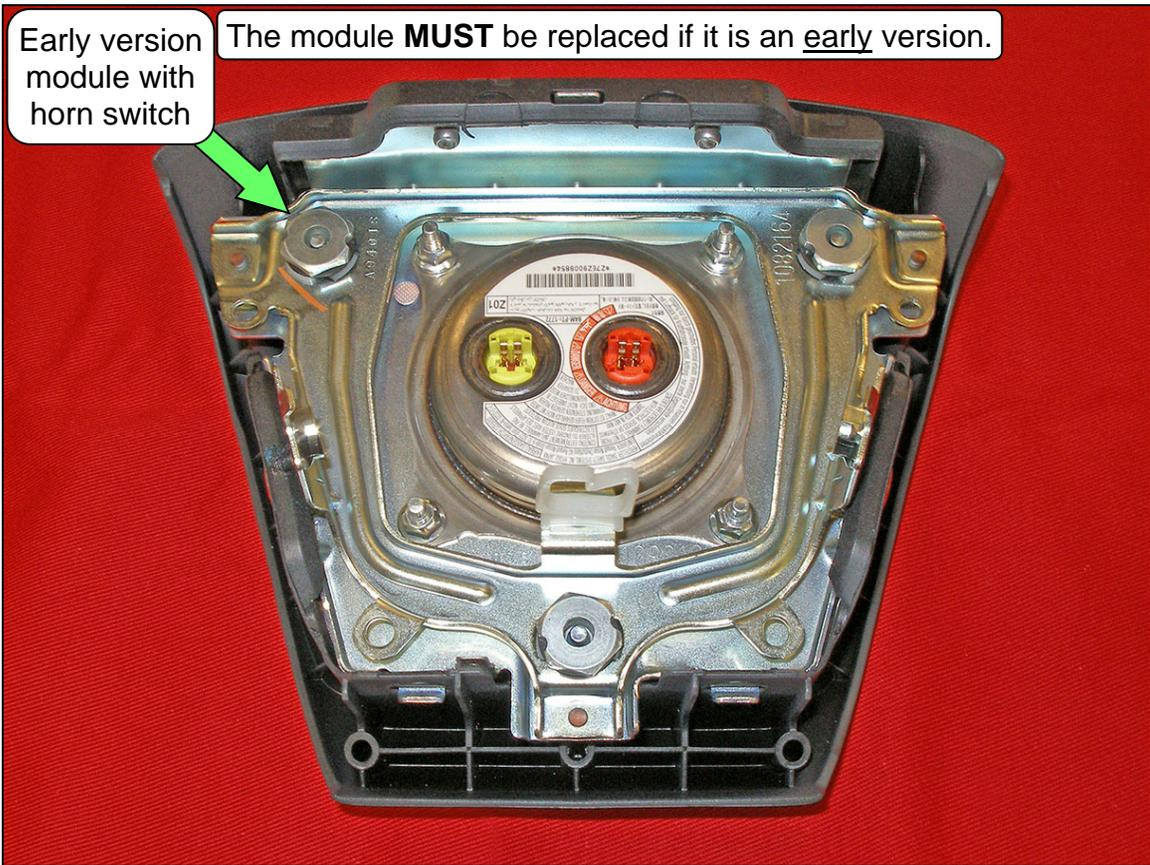
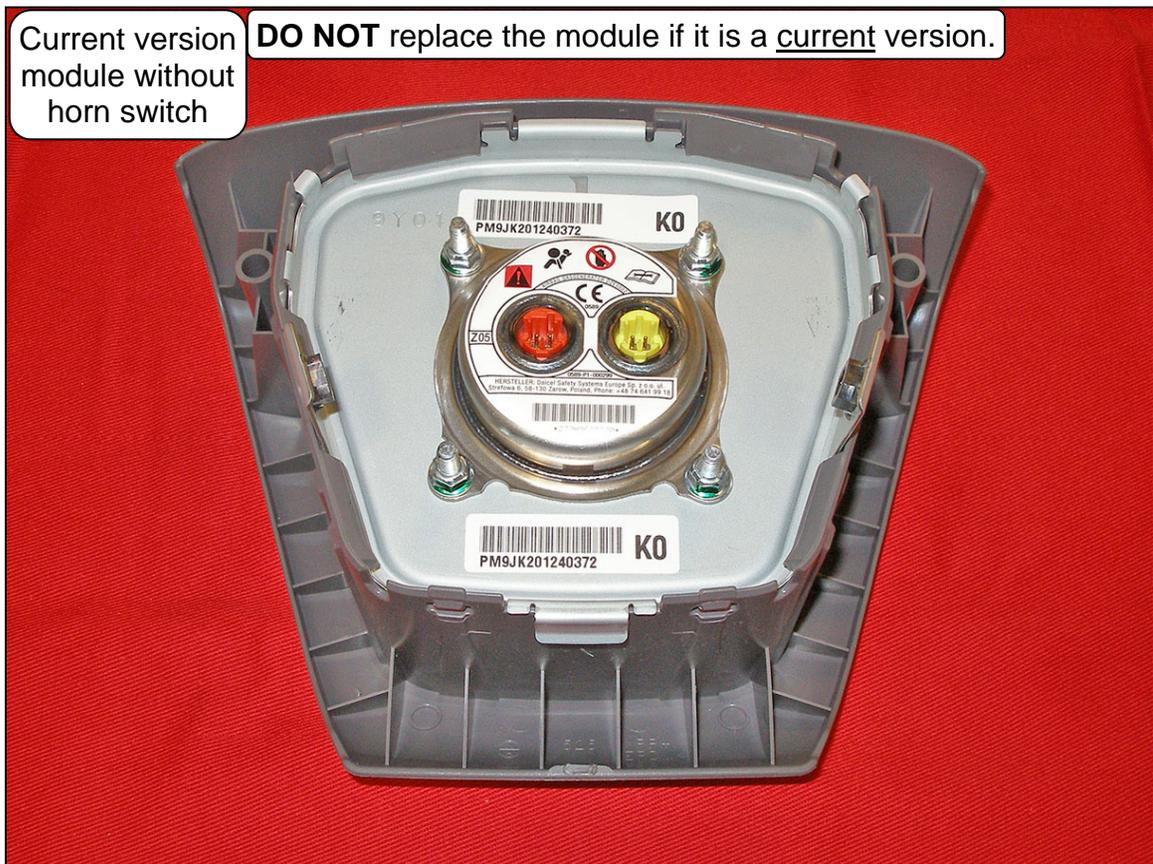

Figure 2
Figure 3
6. Compare the module in the vehicle to those on page 5, Figure 2 and Figure 3:
- If the module looks the same as the one in Figure 2, the module **needs to be replaced**. Go to page 6, step 7.
- If the module looks the same as the one in Figure 3, the module **does not need** to be replaced. Perform steps 8-11 to reinstall the module with new mounting bolts, and then go to **CLAIMS INFORMATION** on page 10.